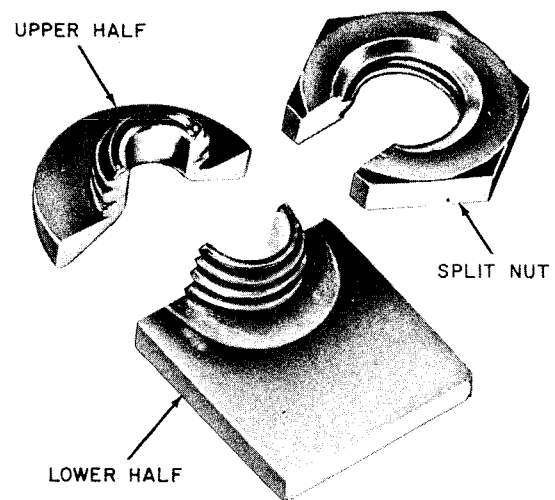

Fig. 10—P-14E894 (MD) Grommet Assembly
**Note:** Early production 750-, 751-, 1750-, and 1751-type sets were equipped with a three piece metal grommet assembly (Fig. 10). It is recommended that the metal grommet assembly be replaced when any maintenance is performed on these sets. (See Table B, Fig. 10 and 11.)